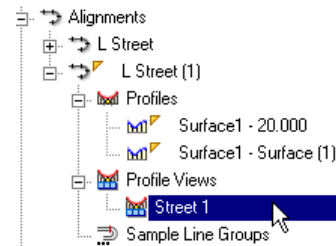

Figure 6-42 The Street 1 profile view in the Profile Views node of the L Street (1) alignment
The profile view is added in the **Profile Views** node as **Street 1**, as shown in Figure 6-42. To view the profile view of the created profile, expand **Alignments > L Street (1) > Profile Views** in the **Prospector** tab.